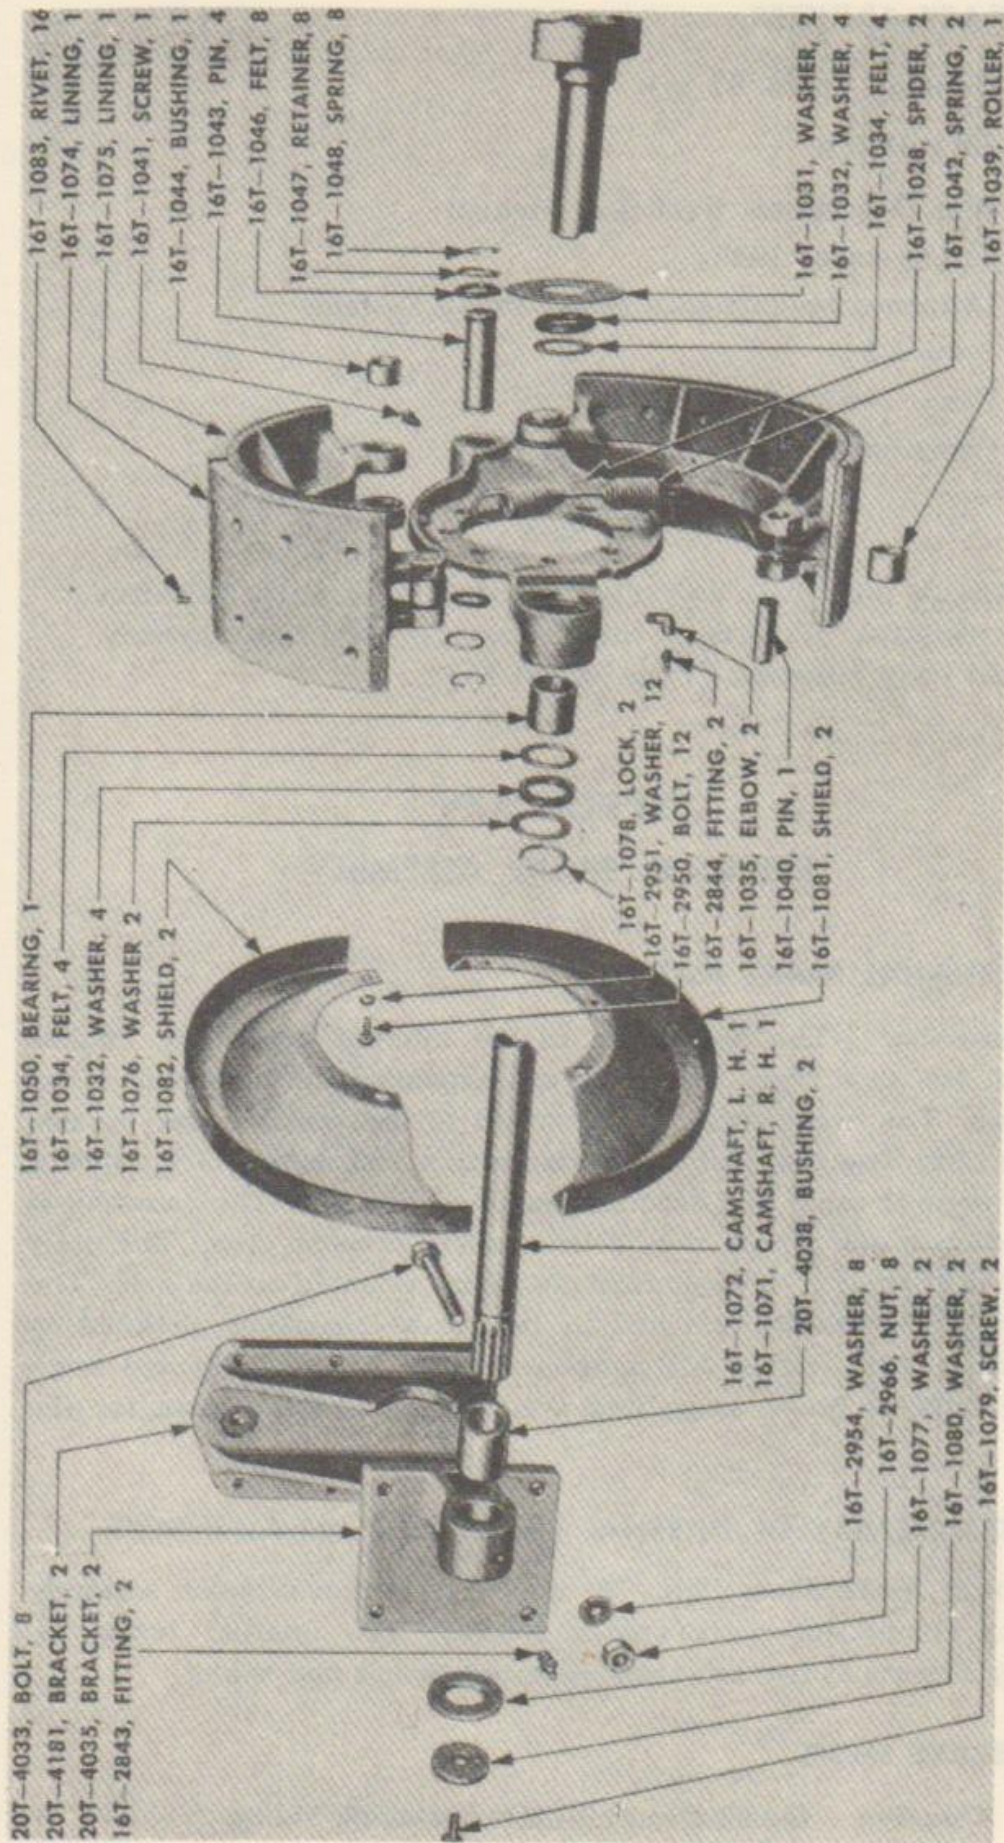

FIGURE 76. DOLLY INTERNAL BRAKE ASSEMBLY—EXPLODED VIEW
Remove Brake Shoes (figs. 76 and 77). Remove brake assembly and its component parts (paras. 58-59). The internal brake assembly consists of two sub-assemblies, the brakes and spider.
d. Reassembly (figs. 76 and 77). Press one bushing into bushing bore, leaving end of bushing flush with face of shoe. Turn shoe over and press bushing into opposite side in the same manner. Shoe bushings come reamed to proper diameter. Try anchor pin through bushing for size. If reaming is necessary, ream to 1.252 inch. Clean all rust off surface of brake shoe using a rasp or a coarse file. Position lining 16T-1074 on cam end of the shoe with the smallest thickness toward the roller end of shoe. Clamp lining to shoe using a C-clamp. Clamps will assure lining fitting contour of shoes and result in a tight fit. Install three rivets 16T-1083, remove clamps and install remaining rivets. Install lining 16T-1075 on anchor pin end of shoe in the same manner making certain the smallest thickness is placed at the anchor pin end.
98. ASSEMBLY OF SUB-ASSEMBLIES (figs. 76 and 77).